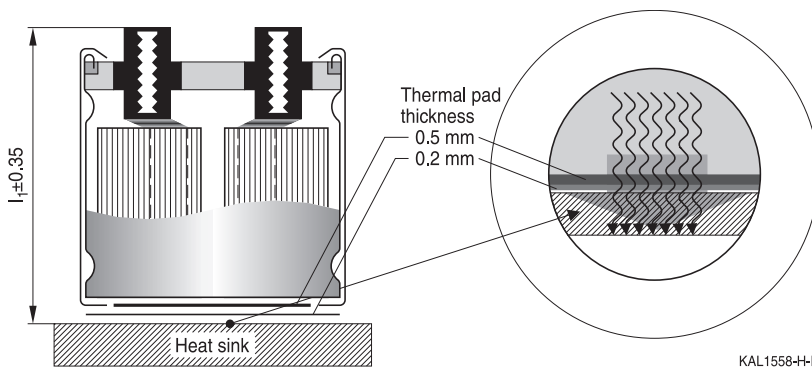

Figure 16
- A minimized tolerance ( $\pm 0.35$  mm) of the overall length  $l_1$  of the capacitor (figure 16) avoids unwanted mechanical forces on the terminals, especially when several capacitors are mounted between heat sink and bus bar.